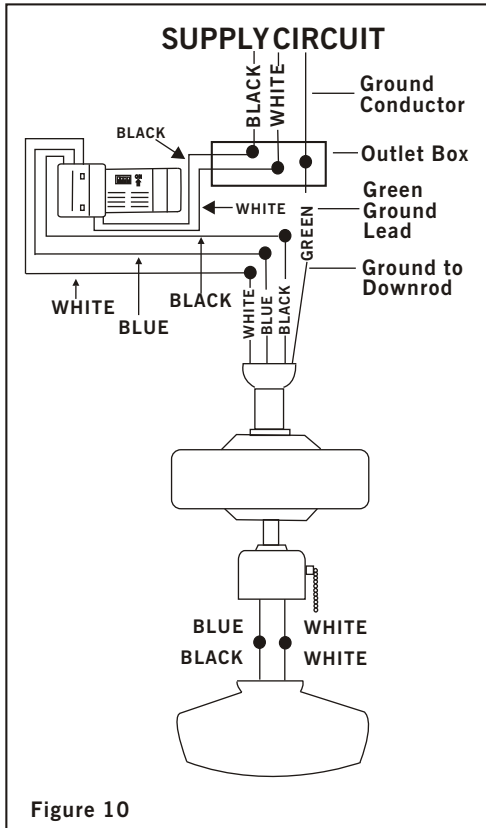

Figure 10
Step 2. (Fig. 10) Motor to Receiver Electrical Connections: Connect the Black wire from the fan to Black wire marked "TO MOTOR L". Connect the White wire from the fan to the White
Step 3. (Figure 10) Receiver to House Supply Wires Electrical Connections: Connect the black (hot) wire from the ceiling to the black wire marked "AC in L" from the receiver. Connect the white (neutral) wire from the ceiling to the white wire marked "AC in N" from the Receiver. Secure the wire connections with the plastic wire nuts provided.
Step 4. (Figure 10) If your outlet box has a ground wire (green or bare copper) connect it to the fan ground wires; otherwise connect the hanging bracket ground wire to the mounting bracket. Secure the wire connection with a plastic nut provided. After connecting the wires spread them apart so that the green and white wires are on one side of the outlet box and black and blue wires are on the other side. Carefully tuck the wire connections up into the outlet box.